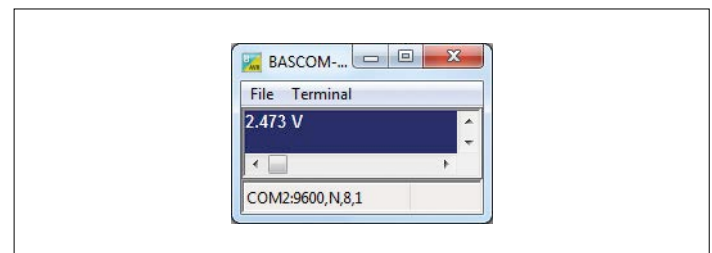

Figure 3. Voltage readout in Bascom Terminal.
to 1023 provided by the A-D converter is converted into voltages, output in serial format and displayed on the LCD. A special feature of the Bascom program (**Listing 1**) is its serial output, which is customized specially for the Bascom Terminal. A frequent distraction on the Terminal is new lines of output constantly appearing one after another, caused by every print instruction being ended with Carriage Return (CR, ASCII 13) and Line Feed (LF, ASCII 10). In fact you can suppress these control characters with a semicolon at the end of the print instruction and by sending just a CHR(13) before the instruction. Each new output then appears on the same line, resulting in a static display (**Figure 3**).